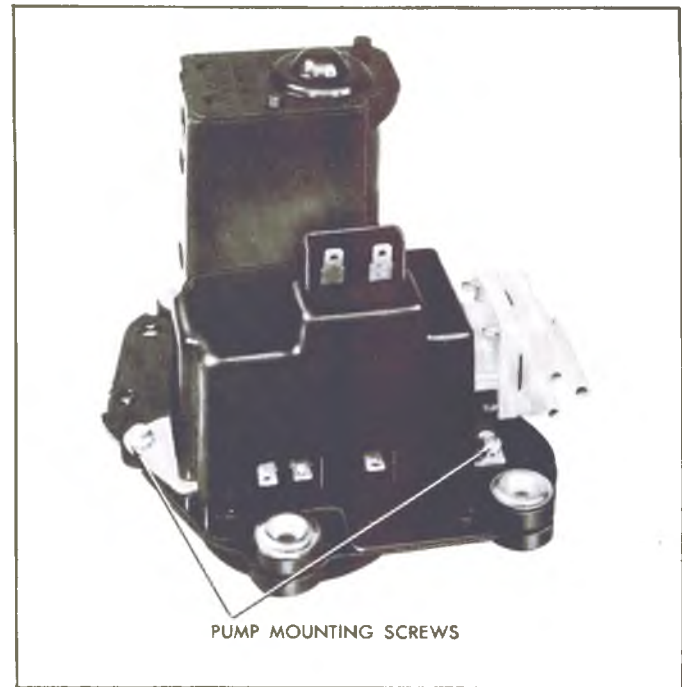

Fig. 43--Washer Pump Attaching Screws
The positive displacement washer pump used on the two-speed non-depressed park wipers (fig. 43) use a pump mechanism consisting of a piston, piston spring and valve arrangement driven by a (4) lobe cam, and follower assembly (fig. 45). The cam is attached to one shaft of the wiper motor output gear (fig. 44). Programming is accomplished electrically and mechanically by a relay assembly and ratchet wheel arrangement.